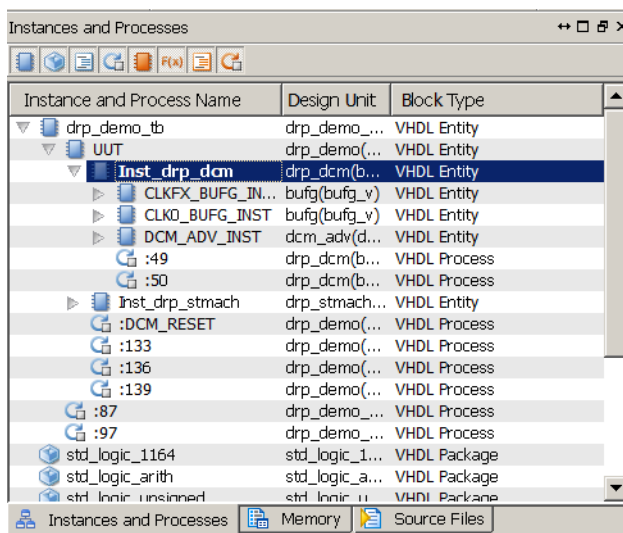

Figure 3-16: Instances and Processes Panel
1. Select the Instances and Processes panel, and in the panel, expand the hierarchy under drp\_demo\_tb as shown in Figure 3-16.